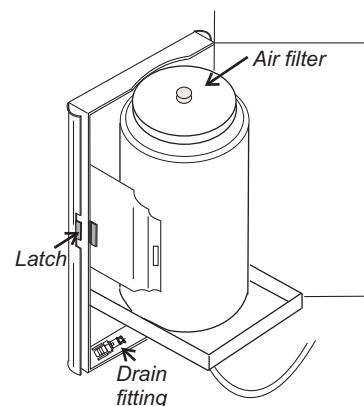

Figure 7-5. Water Bottle
1. Locate the humidity system drain fitting attached to the inside of the water bottle access door. See Figure 7-5.